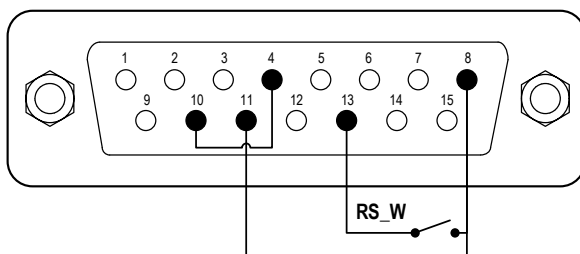
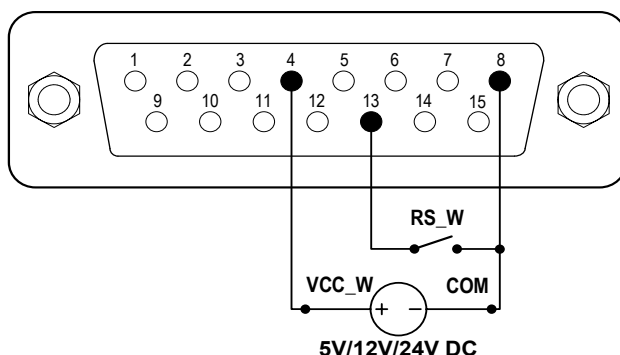

Figure 14. Logic Level 1 Control with Internal Power Source
Figure 15. Logic Level 1 Control with External Power Source
- 1) Turn off the power. Wire the DB15 connector as shown in Figure 14 or Figure 15, and connect it to the DB15 port on the rear of the pump.